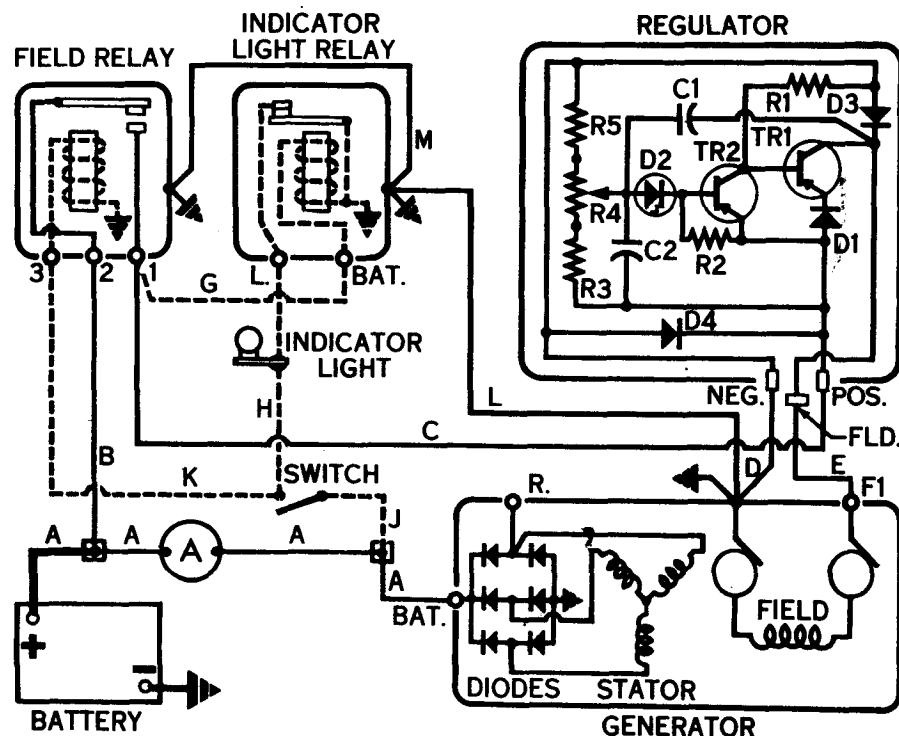
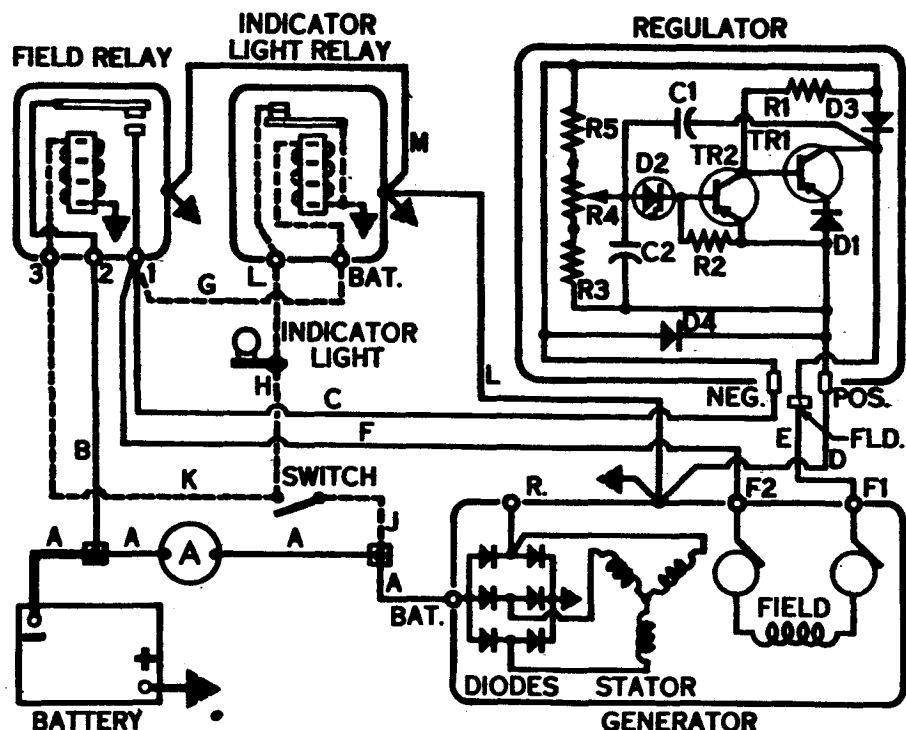
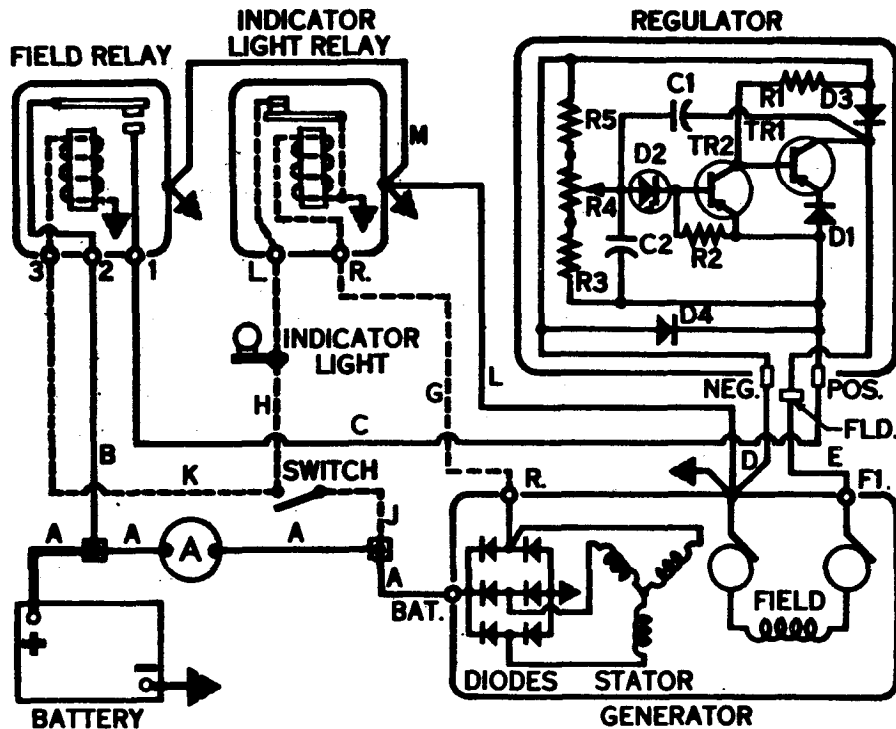
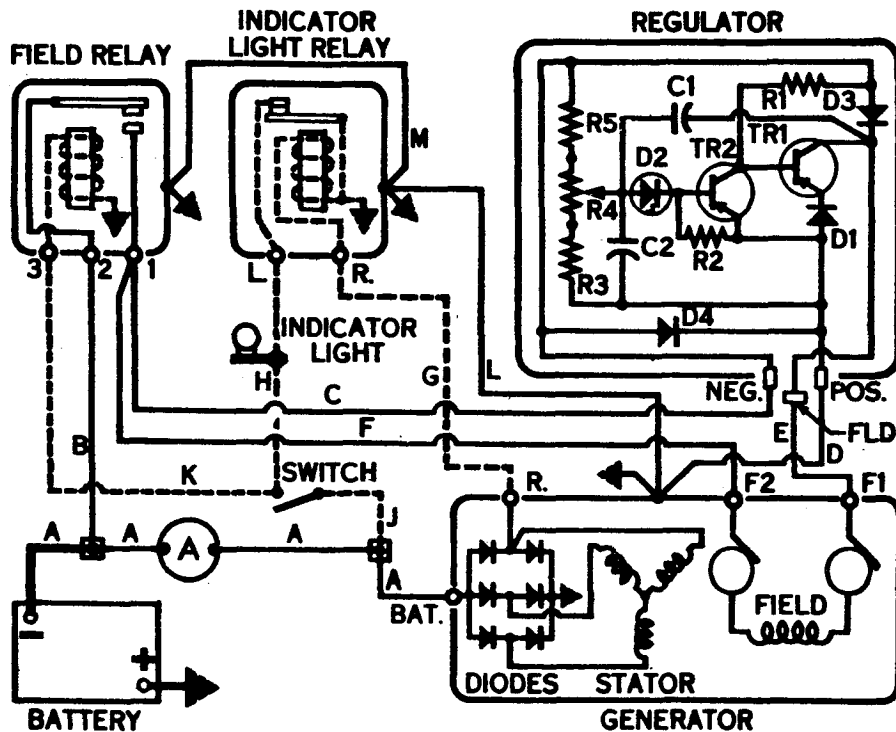

Figure 3—Negative ground circuit with light relay winding connected to battery when switch is closed.
Figure 4—Positive ground circuit with light relay winding connected to battery when switch is closed.
Figure 5—Negative ground circuit with light relay winding connected to "R" terminal on generator.
Figure 6—Positive ground circuit with light relay winding connected to "R" terminal on generator.
Figure 5—Circuit diagram of series-parallel system with switch completing series connections between batteries for 24-volt cranking motor operation. The cranking motor is operated and controlled by a solenoid.
A pinion and ring gear tooth abutment on some types of solenoid-operated cranking motors can cause a fuse to blow or a circuit breaker to open if the start switch is held on for an excessive period of time (Fig. 5). With the tooth abutment condition preventing the contact disk from connecting the solenoid "BAT" and "MOT" terminals, the high solenoid winding current can cause the circuit to open. To prevent this occurrence, the start switch should be immediately opened when a tooth abutment condition is encountered. If the pinion or ring gear teeth are badly burred, an abnormal tooth abutment condition may occur with can cause an open circuit.
A cranking motor that is grounded internally will cause the fuses or circuit breakers to open when the switch is in the charging position (Fig. 6), since both batteries will be short circuited through the fuses or circuit breakers. The large contactor in the solenoid and the cranking circuit wiring will be severely damaged with the solenoid plunger in the crank position (Fig. 5).
Using Figure 6 as an example, it should be noted that the "A" battery uses heavy cranking motor circuit cables during charging, and that the charging circuit for the "B" battery is much longer through the various contacts and connections in the series-parallel switch. With higher circuit resistance, it is normal for the "B" battery to tend somewhat toward undercharge. Maintaining clean and tight circuit connections, using batteries of the same type, size, and age, and occasionally switching the positions of the two batteries will alleviate this problem. Referring to Figure 6 as an example, one method of checking electrically for excessive resistance in the "B" battery charging circuit is to proceed as follows:
1. Negative ground circuit (Fig. 3)
2. Positive ground circuit (Fig. 4)
- B. These circuits also use *separate* light and field relays and are identical to Figures 3 and 4, except the light relay winding is connected to the "R" terminal on the generator.
1. Negative ground circuit (Fig. 5)
2. Positive ground circuit (Fig. 6)
The negative ground circuit shown in Figure 3, and the positive ground circuit shown in Figure 4, can be identified by the use of two separate relays with an indicator light—the
In the negative ground circuit illustrated in Figure 3, when the switch is closed and the engine is not running, the indicator lamp lights because its circuit from the battery is completed to ground through the indicator light relay contacts, which are normally closed. Also with this switch closed, the winding on the field relay is energized. This causes the field relay contacts to close, which connects the winding on the indicator light relay to the battery. If the battery has been charged recently and is not loaded, the indicator light relay contacts may separate, causing the light to go out. Thus, the light will flash on and then go out when the switch is closed. However, if the battery is in a discharged condition or has been standing for some time without being charged, the light will not go out until the higher voltage from the generator causes the light relay contacts to separate. If the charging system should fail to operate properly, the system voltage will decrease, the relay contacts will close, and the lamp will light to indicate trouble in the circuit. If the light stays on for more than 10 minutes with the engine running at moderate or high speed, trouble in the system is indicated.
In the positive ground circuit shown in Figure 4, when the switch is closed and the engine is not running, field current can be traced from the battery positive ground to generator ground, and then to the regulator "POS" terminal. The current continues through diode
D-1 and transistor TR-1 to the regulator "FLD" terminal, and then through the field winding and field relay contacts back to the battery, thus completing the circuit. Except for this primary difference, this circuit operates in the same manner as that described for the negative ground circuit in Figure 3.
These two circuits (Figs. 5 and 6) are identical to the circuits in Figures 3 and 4, except the winding on the indicator light relay is connected to the "R" terminal on the generator instead of to the terminal on the field relay. In this type of circuit, the indicator light relay contacts will not separate to cause the light to go out until the generator is in operation. If the generator should fail to operate properly, the relay contacts will close and the lamp will light to indicate trouble in the circuit.
Figures 3 and 4 — These circuits use *separate* light and field relays. The light relay winding is connected to the battery when the switch is closed.
Figures 5 and 6 — These circuits are identical to Figures 3 and 4, except the light relay winding is connected to the "R" terminal on the generator.